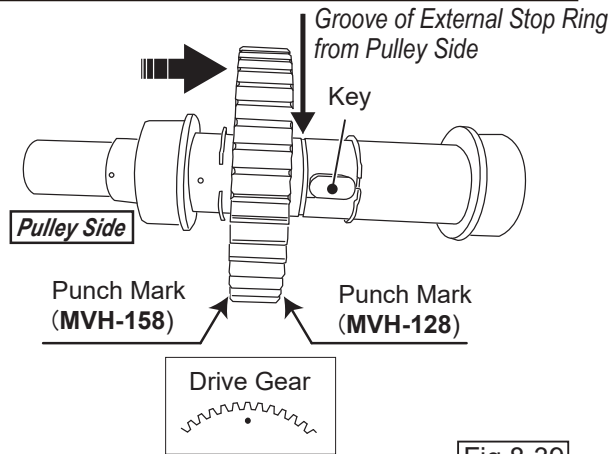

Fig.8-39
- b. Temporarily assemble the drive gear (30) to the drive shaft until reaching the groove of external stop ring from pulley side, then temporarily assemble the external stop ring 2 (5). (Fig.8-39)